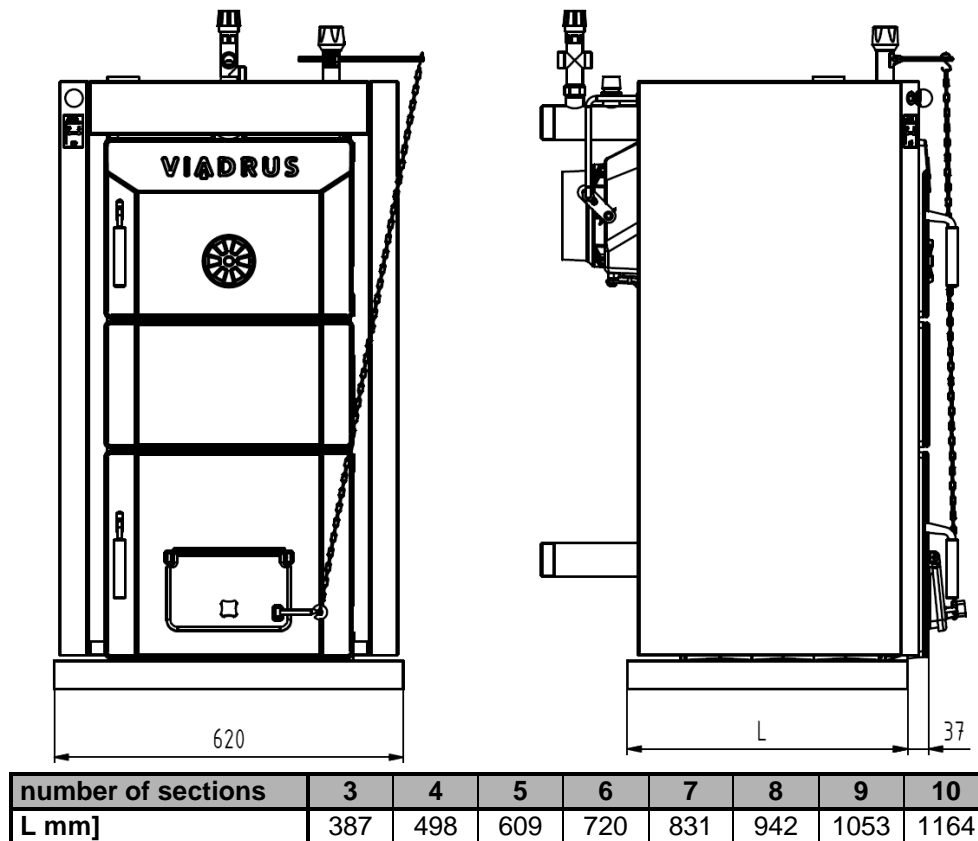

Fig. No. 9 Substruction (retaining wall) dimensions
1. Installation on a floor made of incombustible material (Fig. No. 9)
- when installing and operating the boiler it is necessary to keep a safety distance of 200 mm from the materials of combustibility grade A1, A2, B and C (D);
- for easily combustible materials of combustibility grade E (F), which quickly burn and burn themselves even after removal of ignition source (such as paper, cardboard, asphalt and tar paper, wood and wood-fiber boards, plastics, floor coverings) the safe distance has to be doubled, i.e. to 400 mm;